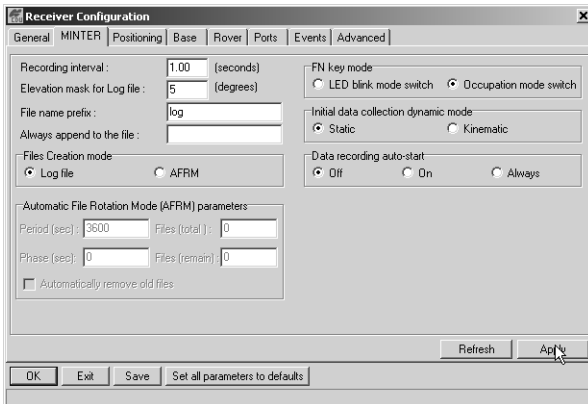

Figure 3-5. Rover MINTER Configuration
2. Click **Configuration->Receiver->MINTER**, and configure the Rover with the following parameters, then click **Apply** (Figure 3-5):
2. Using PC-CDU, click **Configuration->Receiver ->MINTER**, and configure the Rover with the following parameters, then click **Apply** (Figure 3-5 on page 3-9):